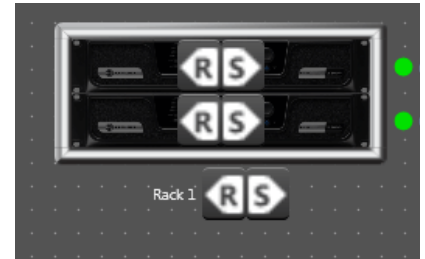

Figure 32: Send and Receive icons
- b. If all the devices in the venue are matched, going online lands in Synchronize Venue mode. In Synchronize Venue mode, **Receive** and **Send** icons will appear for each device in the venue, as well as for a rack if more than one device has been added (see **Figure 32**). This provides the ability to send/receive data either to/from a single device, or to/from all devices within the rack with a single click.